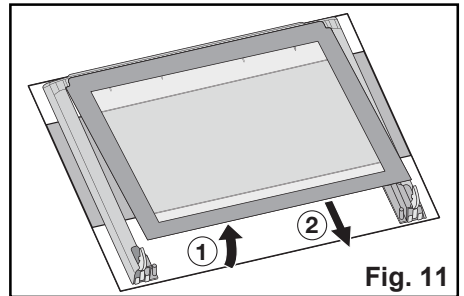

Fig. 11
9. gently lift and carefully take off the uppermost pane marked by a decorative frame on 4 sides (Fig. 11).